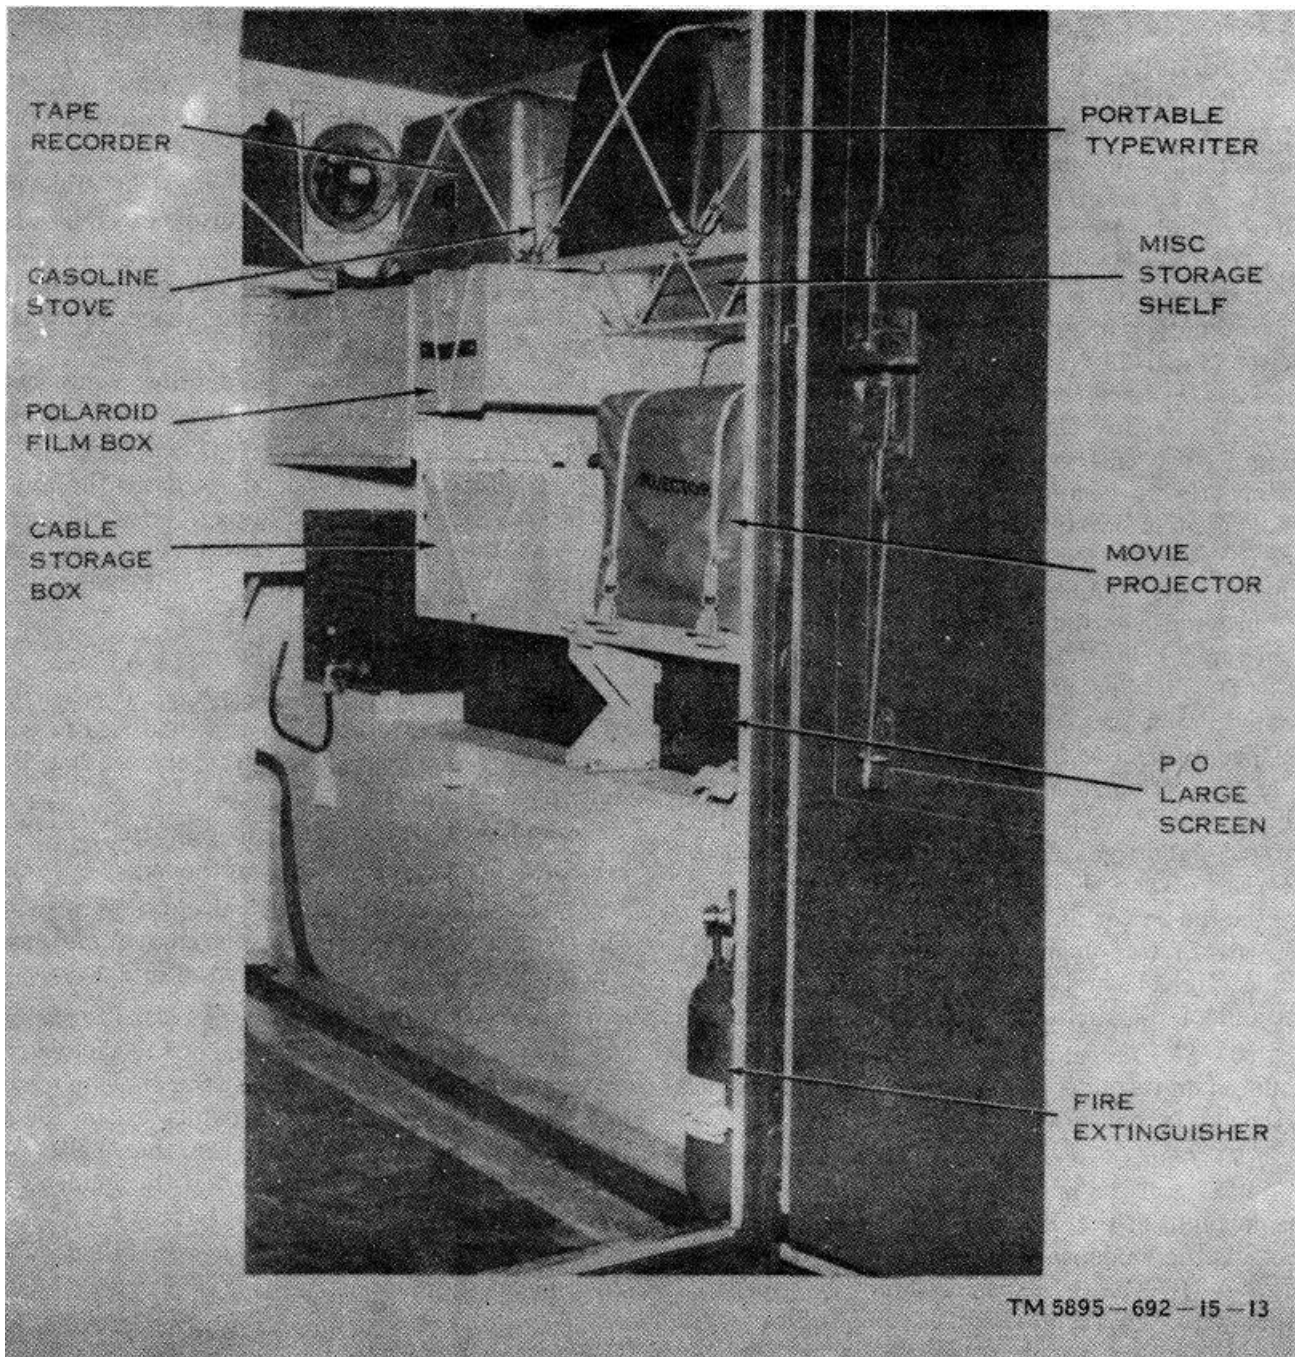
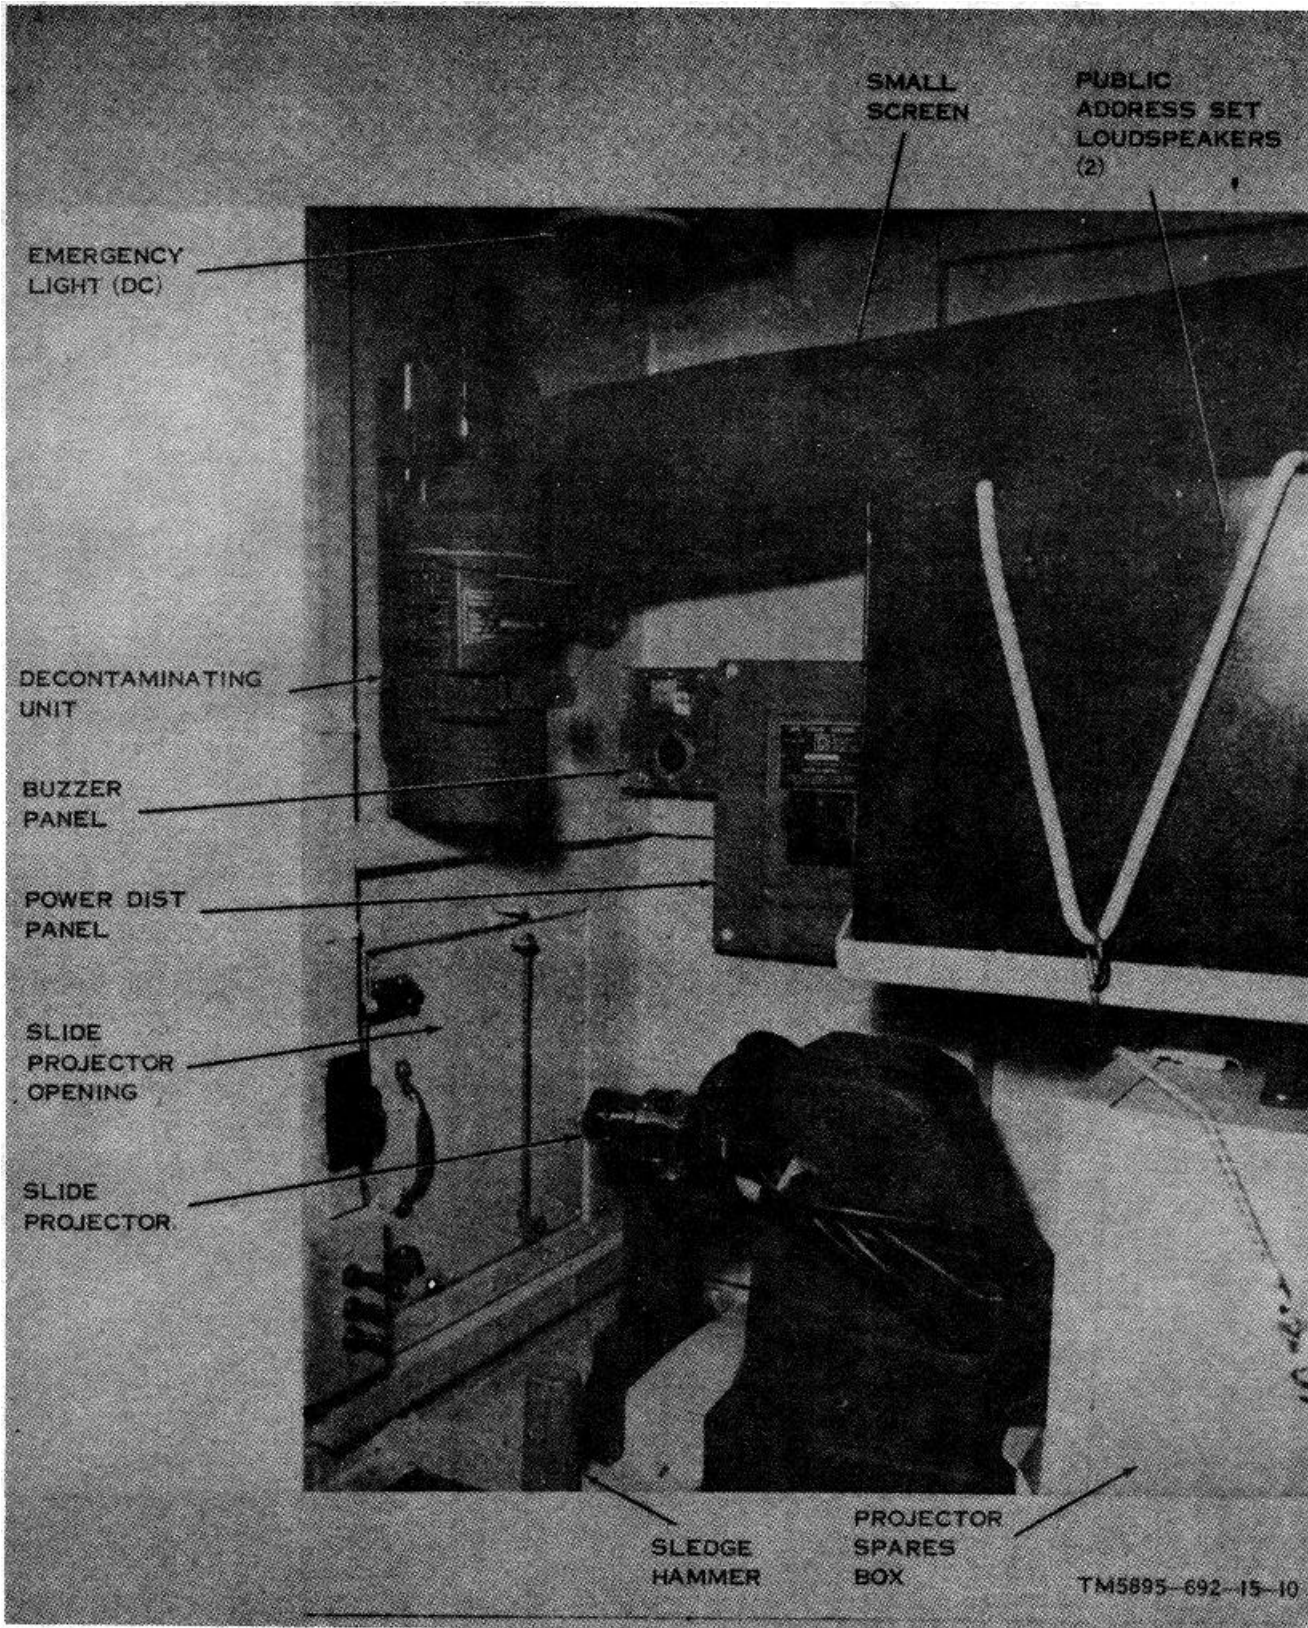
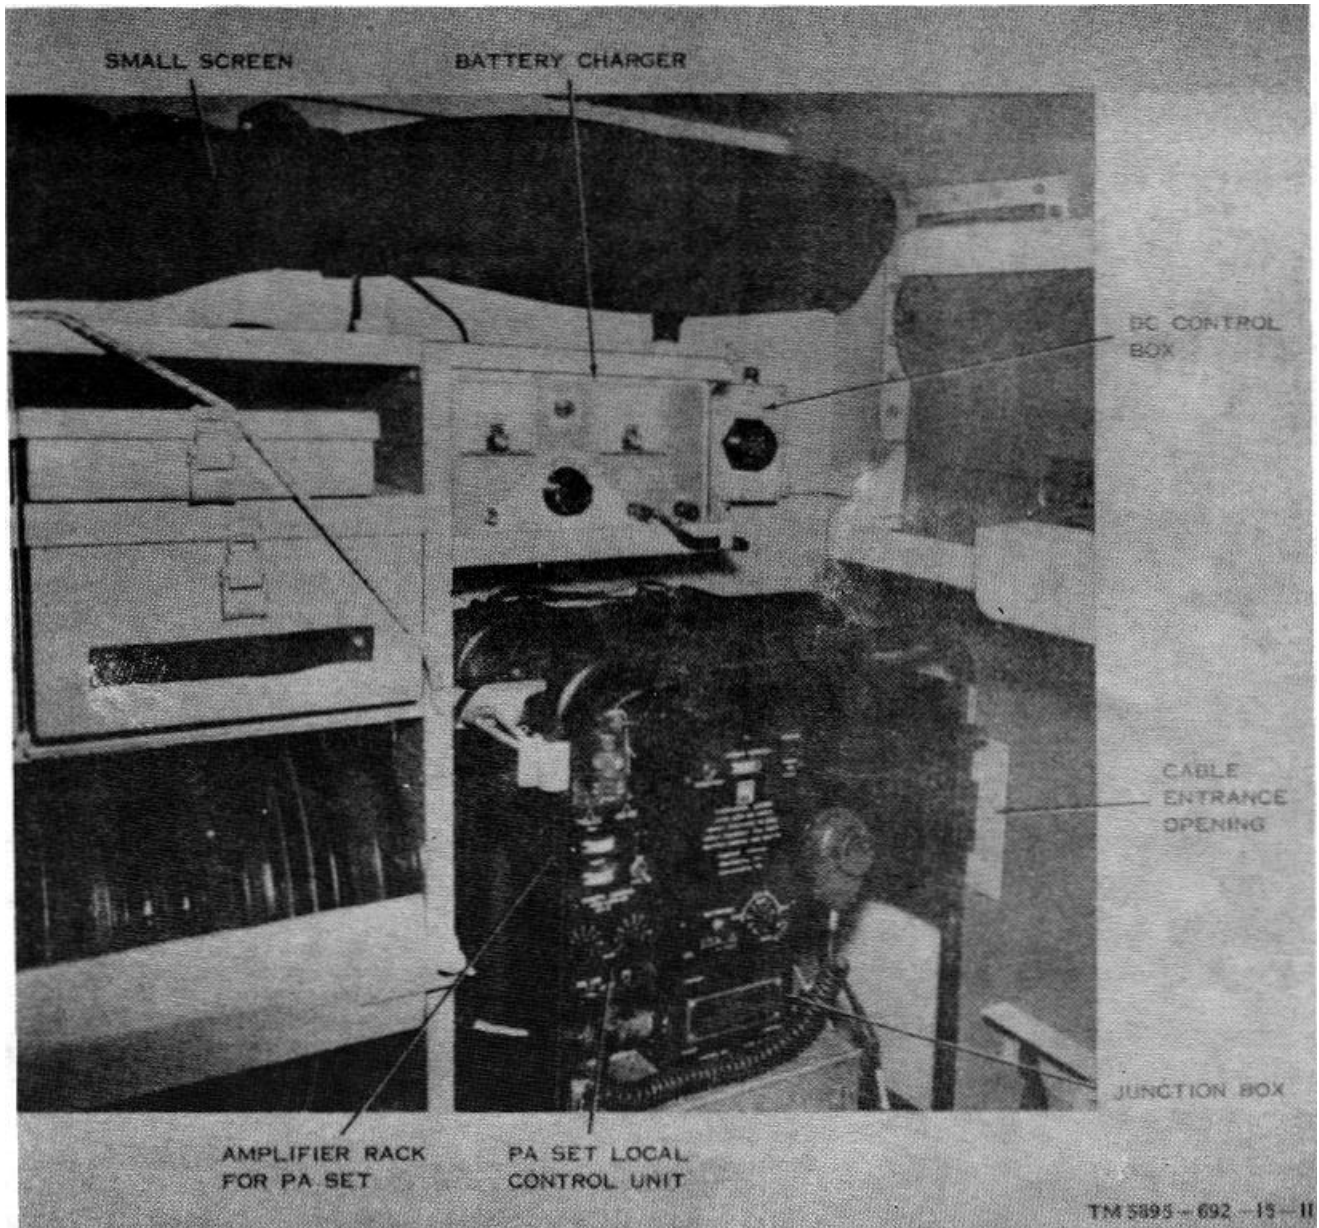

Figure 1-4. Inside shelter, curbside equipment.
Figure 1-5. Inside shelter, slide projector area.
Figure 1-6. Inside shelter, PA set area.
(1) *Ac circuitry* (fig. 5-1). The ac power circuitry includes the power distribution panel (fig. 1-5), fluorescent lighting fixtures, and ac outlets for the components. An ac power cable receptacle and two outlets are provided on the outside of the shelter (fig. 1-2).
(2) *Dc circuitry* (fig. 5-2). The dc circuitry includes a battery charger (fig. 1-6), a dc control box, a 24-volt emergency dome light in the shelter ceiling (fig. 1-5), and a dc power cable to connect the dc control box to the truck battery.
(a) The front wall includes two exhaust fans vents with hinged covers (fig. 1-1). A cable entrance opening in the front wall (fig. 1-6) provides passage for the dc power cable connected to the truck battery in the truck cab and for the cable of the remote control unit of the PA set when the unit is mounted in the truck cab.
(b) Clamping devices hold the slide projector (fig. 1-5), the movie projector (fig. 1-4), the battery charger (fig. 1-6), the large screen cases (figs. 1-4 and 1-7), the amplifier rack for the PA set (fig. 1-6), and the power unit (fig. 3-3).
(1) A stainless steel floor is used.
(2) The doorsill is strengthened.
(3) A covered cylindrical chute is provided at the rear wall (fig. 1-2) for removal and insertion of the small screen (fig. 1-5 and 1-6).
Loudspeakers (fig. 1-5).	Tied down to shelf.